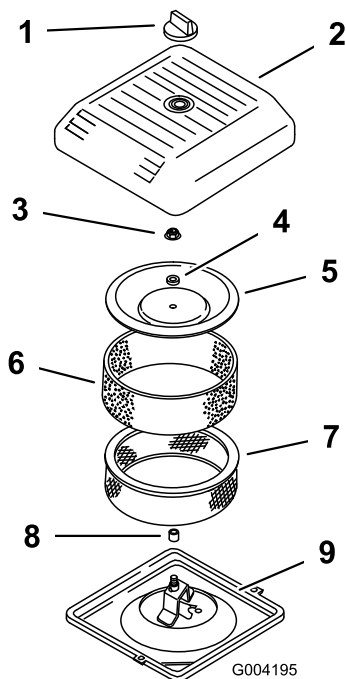

Figure 25
4. Unscrew the knob and remove the air cleaner cover (Figure 25).
5. Carefully slide the foam pre-filter off of the paper element (Figure 25).
6. Unscrew the cover nut and remove the cover, spacer and paper filter (Figure 25).
2. Place the air cleaner assembly onto the air cleaner base (Figure 25).
3. Install the cover, spacer and secure it with the cover nut (Figure 25). Torque the nut to 95 inch-lb (11 N-m).
4. Install the air cleaner cover and secure with the knob (Figure 25).